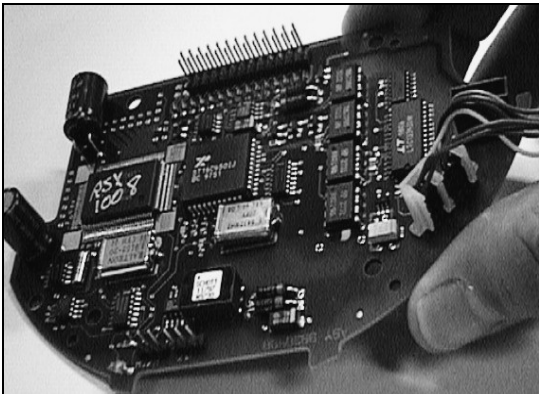

Figure 7 : Connector holder placement
4. Attach the plastic connector holder as shown in Figure 7. The connector holder snaps should extend through the holes in the kV RSX board and snap into place.
5. Attach the plastic connector holder as shown in Figure 7. The connector holder snaps should extend through the holes in the kV RSX board and snap into place.